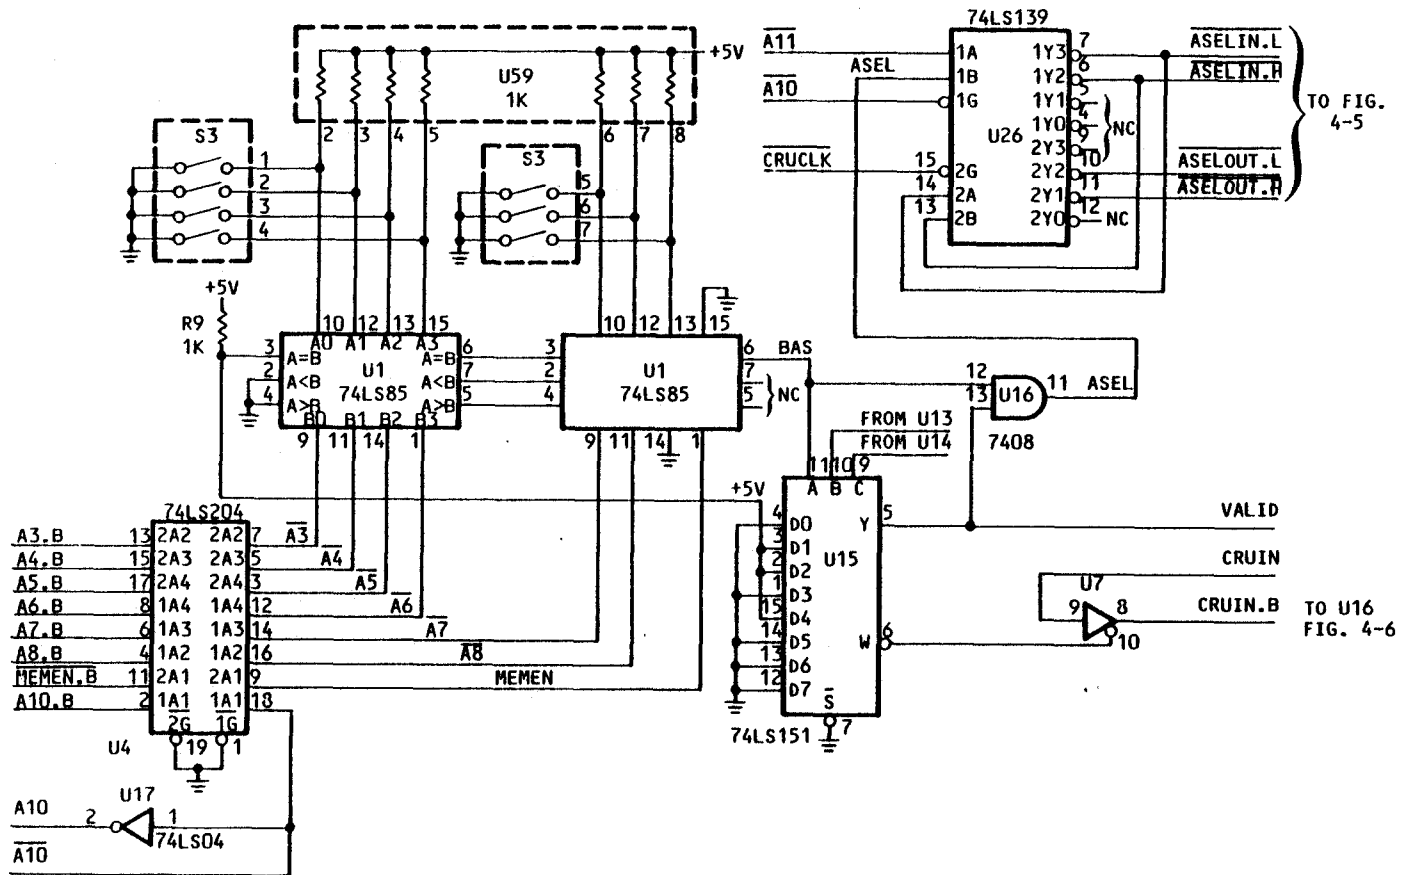
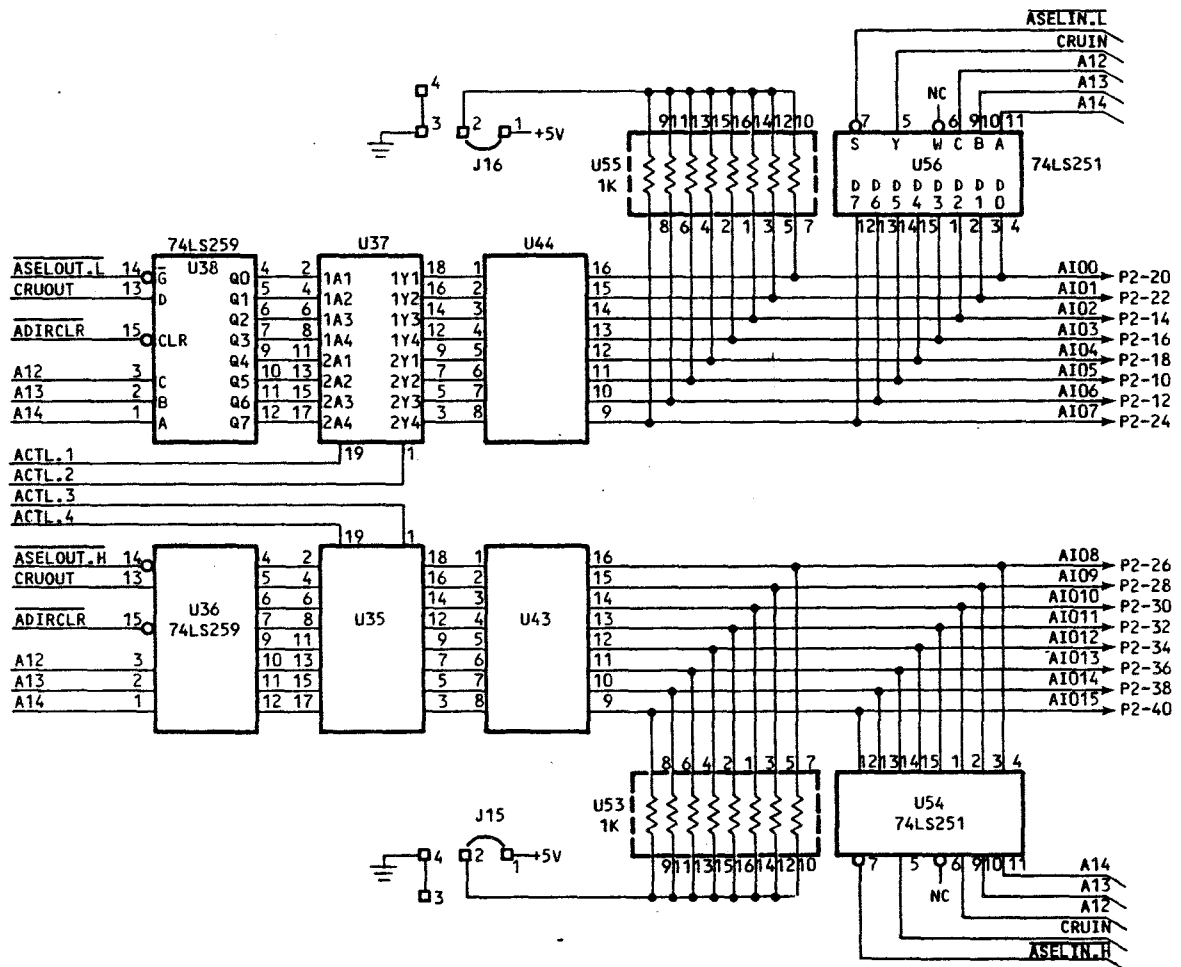

FIGURE 4-2. TM 990/311 CRU ADDRESS SELECTION/DECODE CIRCUITS
FIGURE 4-5. INPUT/OUTPUT LATCHES AND BUFFERS
The circuits described in this subsection decode a CRU address and generate unique signals which enable one of the six output latches or one of the six input latches. Each latch represents one eight bit block of one of the ports. Each block is designated with a 'H' or 'L' suffix. For example, the line labeled 'ASELIN.L-' (in Figure 4-2) carries the select signal for the input latch of the 'L' block of Port A.
The switch select and comparator circuit for Port A is shown in Figure 4-2. The CRU address selection and decode circuits of the other two ports are identical to Figure 4-2. This circuitry can also be found on sheets 2 and 3 of the schematic diagrams (page A-3 and A-4).
Address lines A3.B to A8.B (Figure 4-2) carry the CRU base address. They are inverted and buffered onto the module by a 74LS240 Octal Buffer. The six MSB's of the CRU address (A3- through A8-) are compared to switches S3-1 through S3-6 by the cascaded comparators U1 and U12.
Notice that switch S3-7 is compared to ground (logic 0) by U12; therefore, switch 7 must be closed (ON) in order to get a true comparison signal (A=B) out of U12 (labeled 'BAS' in Figure 4-2). Switch S3-7 acts as a port enable selector. When switch S3-7 is open, port A is disabled, and does not appear at all in the CRU map.
The base address select signals (BAS) from all three port address decoders are routed to U15, a 1-of-8 Data Selector. When any BAS signal is true, the Y output of U15 is high and the W output is low. If more than one BAS signal is true at once, the Y output of U15 will not go active high; therefore, if the same CRU address is set on more than one of the port select switch banks (S1, S2 or S3), none of the ports will be selected when the address appears on the address lines. The active low W output enables CRUIN onto the system bus through U7. The Y output forms the VALID signal in Figure 4-2 and Figure 4-5.
The BAS signal is ANDed with the VALID signal (by U16 in Figure 4-2) to produce a signal labeled 'ASEL'. ASEL is one input to U26, a 2-to-4-line Data Selector (U26 in Figure 4-2 is from schematic sheet 3, page A-4). The signals labeled 'ASELIN.L-' and 'ASELIN.H-' in Figure 4-2 are a Boolean function of ASEL, A11 and A10 as follows:
The Boolean expressions for the signals labeled ASELOUT.L- and ASELOUT.H- in Figure 4-2 are as follows:
The input and output buffers are shown in Figure 4-5. This figure shows only the circuit for Port A. The other two ports have identical counterparts of this circuit which can be found on schematic sheet 4 (page A-5).
The input selectors (U54 and U56 in Figure 4-5) have outputs (CRUIN) that are enabled by the appropriate ASELIN signal. The three least significant bits of the CRU address (A12, A13 and A14) select the input line that will be coupled to CRUIN.